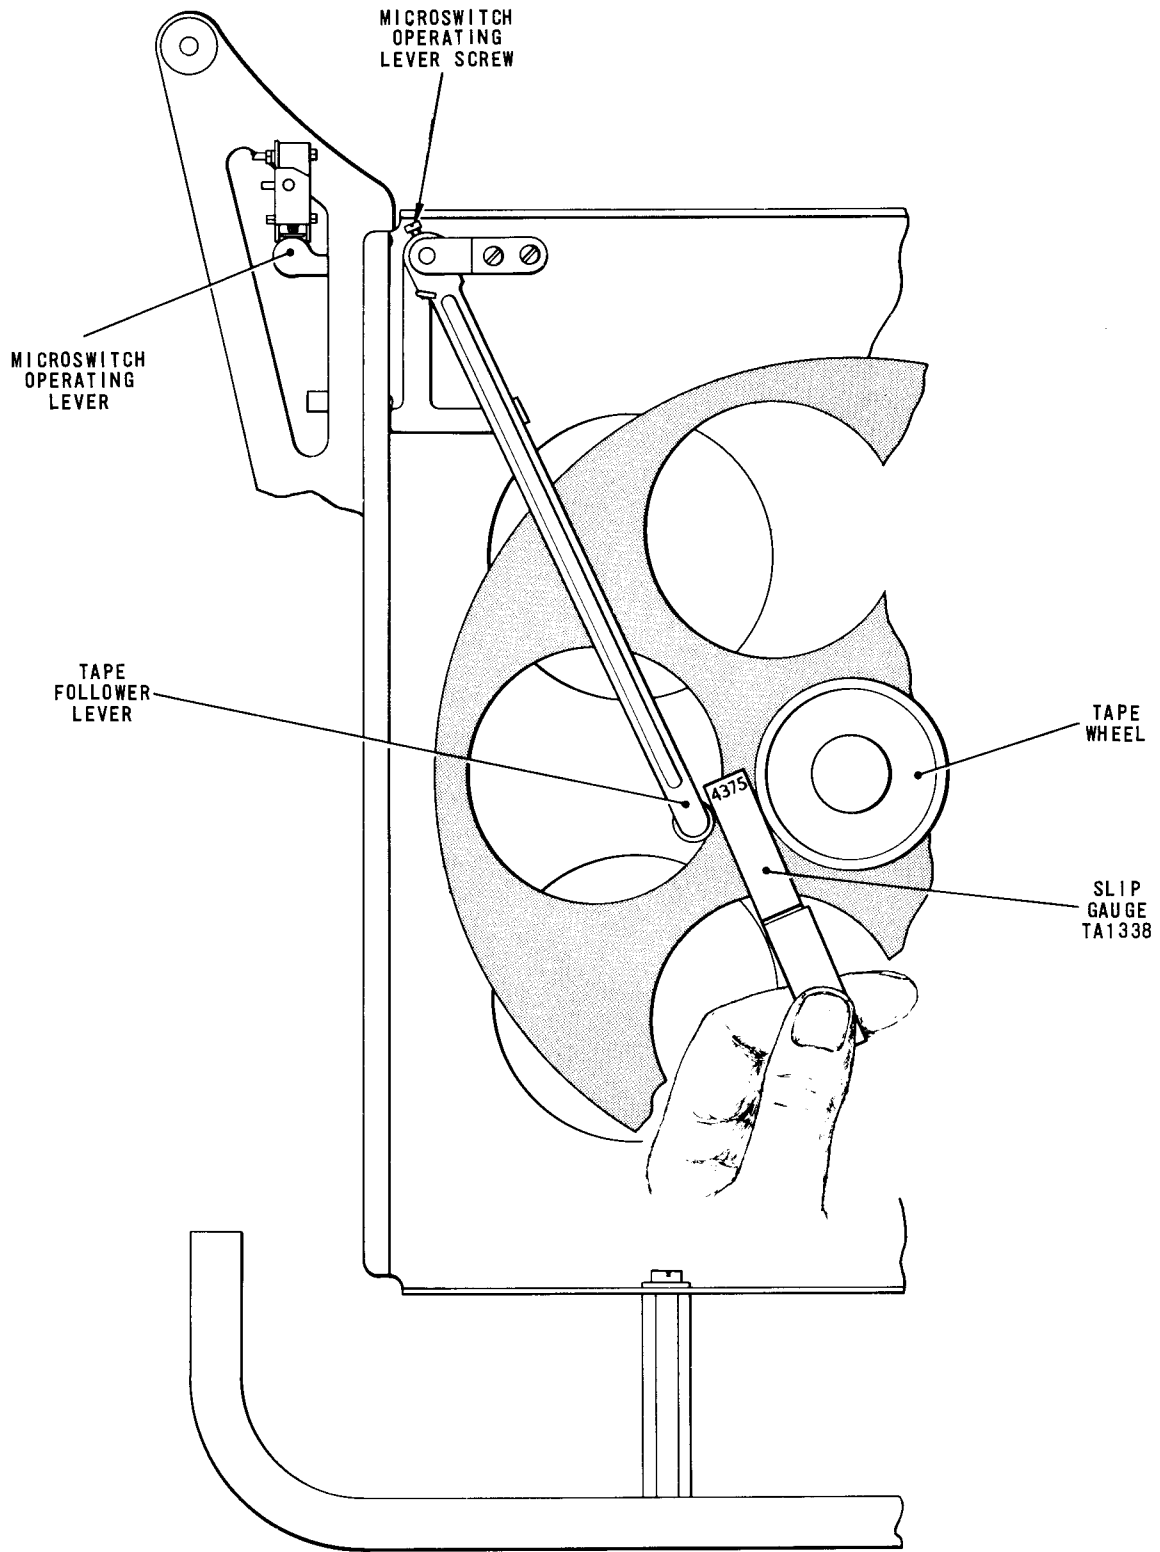

Fig. 4.83 TAPE EXHAUST ALARM
- 104.1 Turn the machine on to its right-hand side, open the tape drawer and remove the cardboard tape boss from the tape wheel, Fig.4.83. Insert the 0.4375 in. end of slip gauge TA1338 between the roller on the tape follower lever and the tape wheel, as shown in the figure.